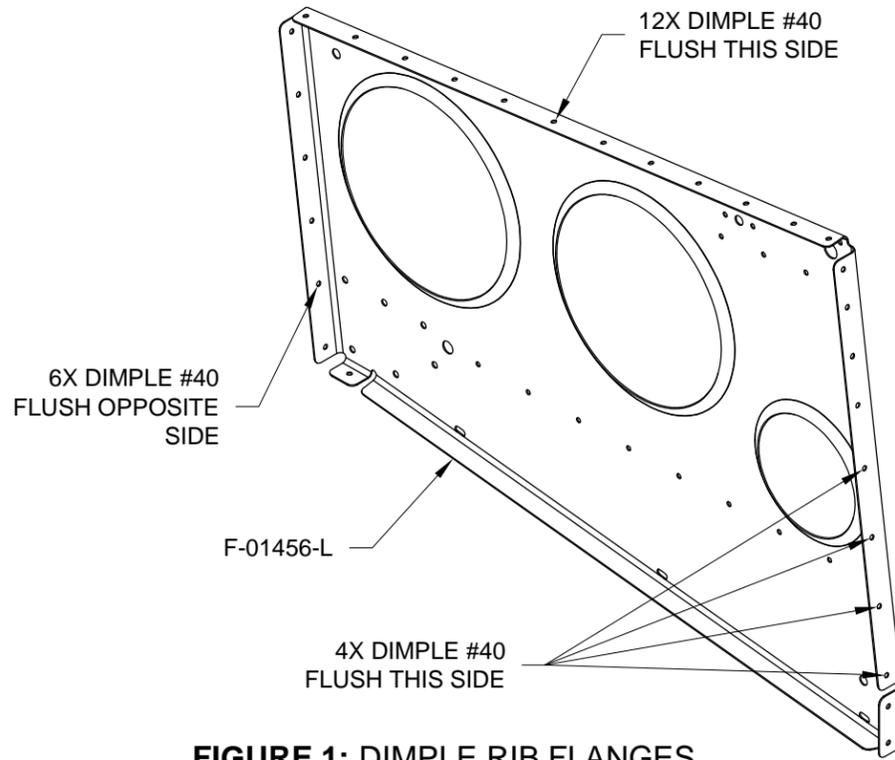

FIGURE 1: DIMPLE RIB FLANGES
Step 1: Dimple the #40 holes in the F-01456-L & -R Fwd Fuse Rib flanges per Figure 1 call-outs.